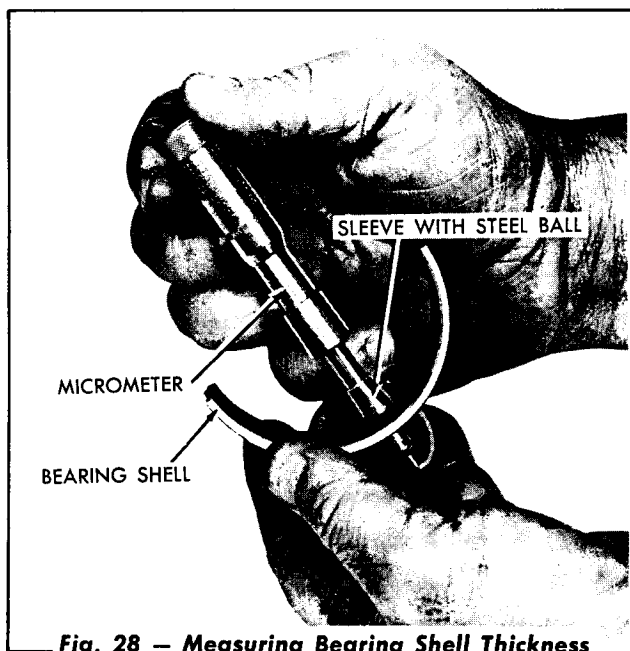
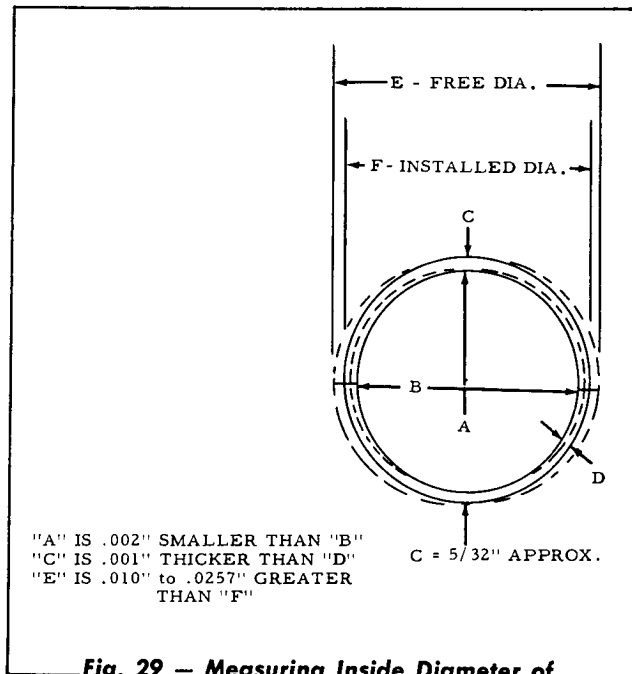

Fig. 28 — Measuring Bearing Shell Thickness
Fig. 29 — Measuring Inside Diameter of Main Bearing Shell
2. The specified vertical clearance between the main bearing shells and the crankshaft journals is .002" to .0047". New bearing shells must be installed and possibly the crankshaft will have to be reground or replaced when this clearance exceeds .009". The amount of wear on the bearing shells may be determined by measuring each shell with micrometers as shown in Figure 28. New shells, measured at point "C" in Figure 29 are .1549"/.1554" thick. Bearing shells less than .153" thick are worn beyond the allowable limits and must be replaced.
3. As shown in Figure 29, the bearing shells (when in place) are .002" larger in diameter at the parting line than they are 90°